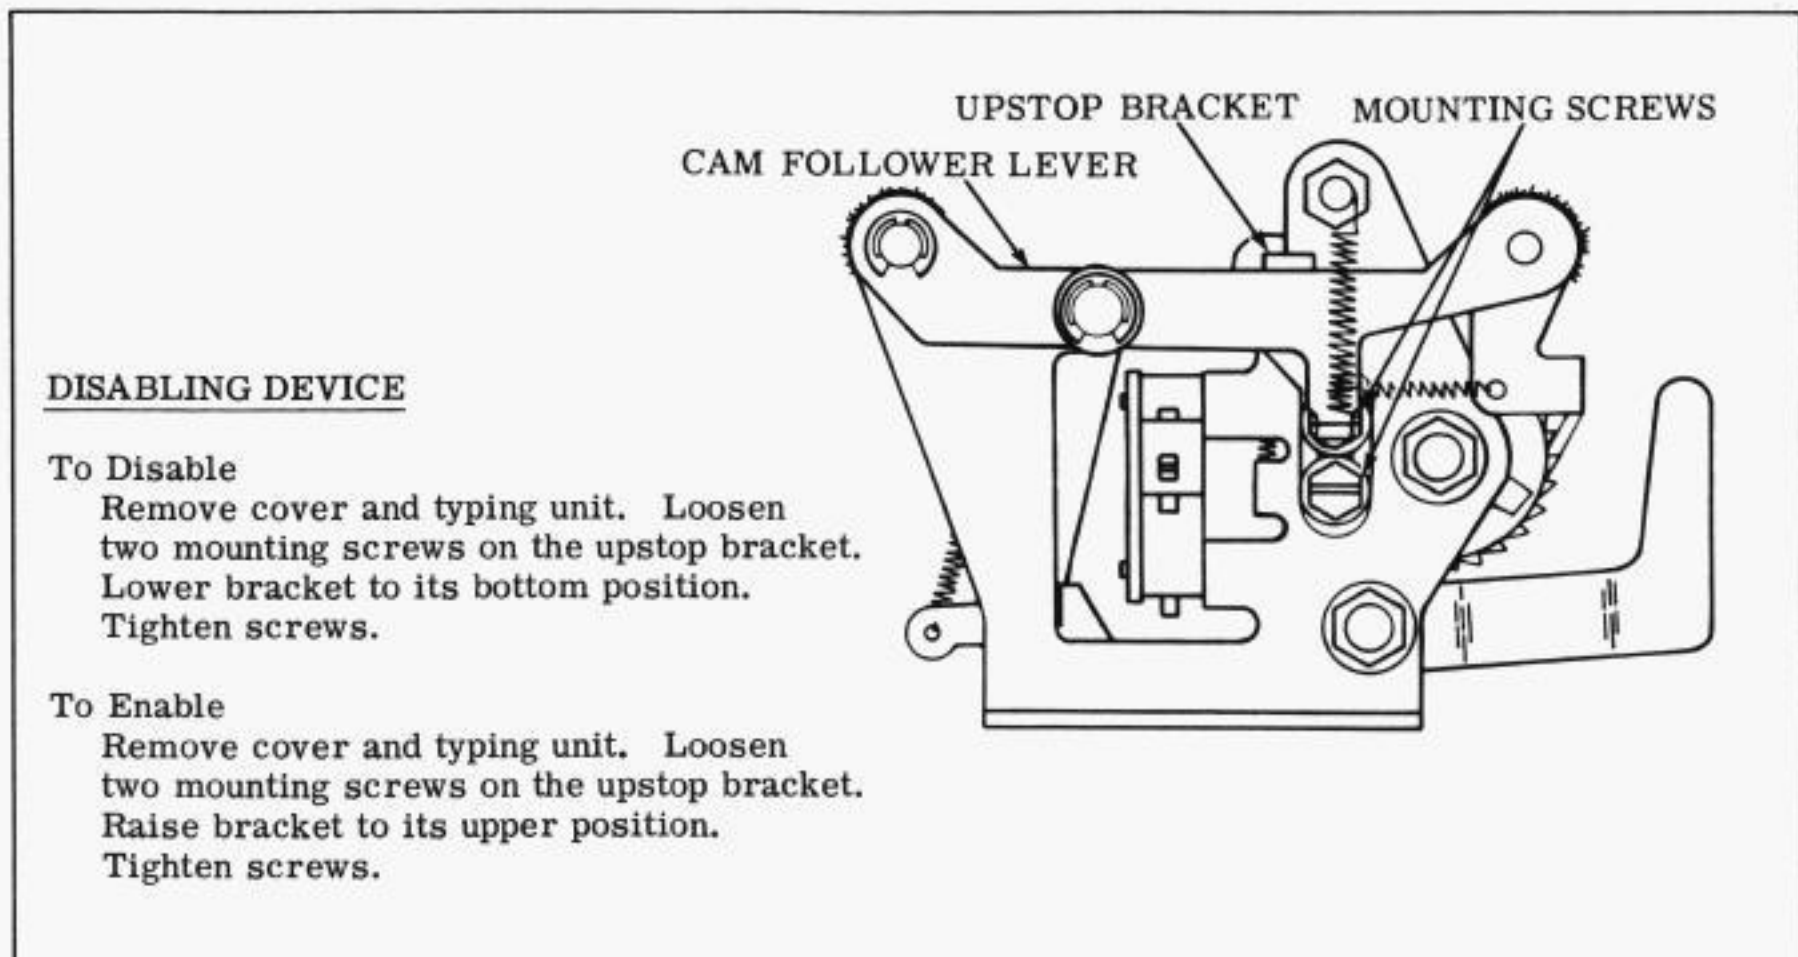

Figure 5 - Enabling the Time Delay Mechanism
2.07 If the KSR or RO Set is equipped with a time delay mechanism, the upstop bracket must be raised before the mechanism will function properly. The instructions for engaging the cam follower lever on the time delay mechanism with the cam on the typing unit are given in Figure 5.